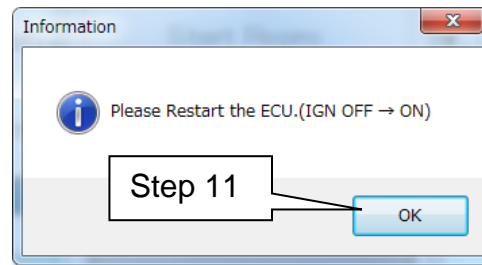
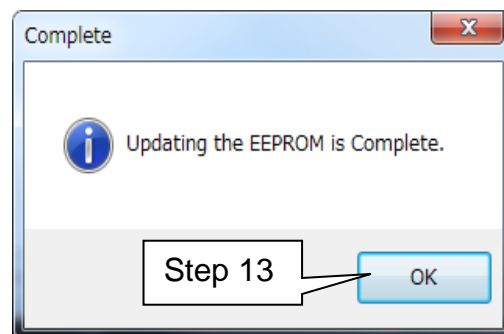

Figure 30
Figure 32
- After selecting OK in Figure 30, the OCS reprogramming will likely complete items 5 through 7 quickly (see "Complete" screen, Figure 32 below).
12 When this screen displays (Figure 32), OCS reprogramming is complete.